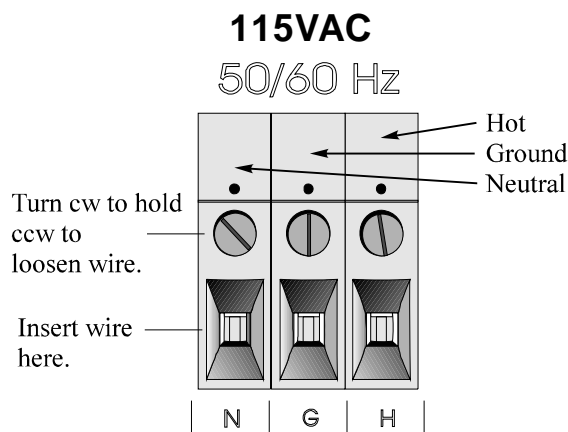

Figure 2-4: Primary Input Power Connections
**Primary Input Power:** The power supply in the Model 6000B will accept a 115 Vac, 50/60 Hz power source. See Figure 2-4 for detailed connections.